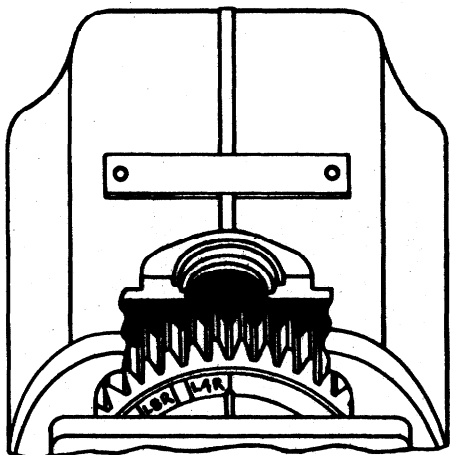

Figure 2. Alignment of Timing Marks on Distributor Gear — 4 Cylinder, Right Hand Rotation
- a. "4" and "8" Cylinder, all types — The timing rib on the distributor block MUST align within 1/2 tooth either side of the "L" or "R" mark on the gear, depending on magneto rotation. (See figure 2)